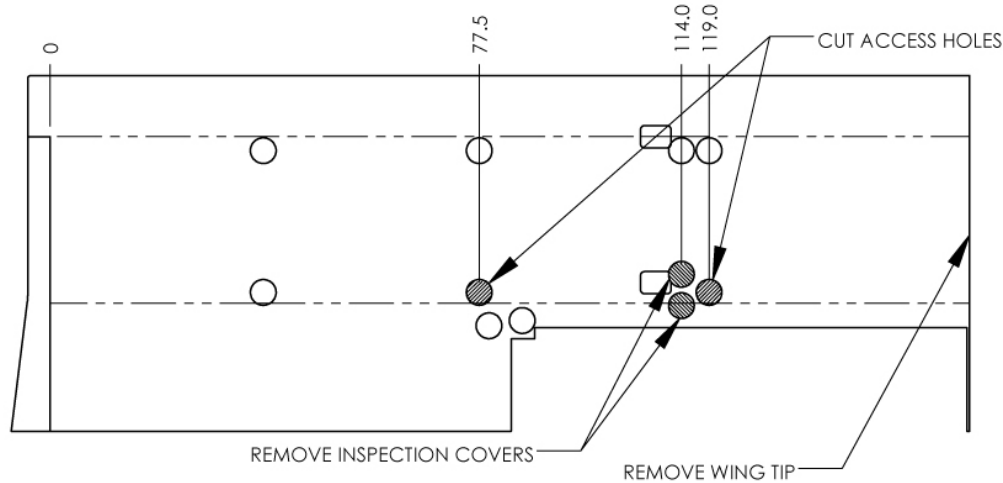

Figure 3, Wing Inspection Locations
3. Open access holes on the bottom of the wing at stations 77.5 and 119.0 as measured from the wing butt rib (2 locations per wing). The access holes are shown in Figure 3. Opening the access holes is optional provided an equivalent inspection can be conducted (i.e. borescope).
4. Remove inspection covers located on the bottom of at wing station 114.0 per Figure 3.